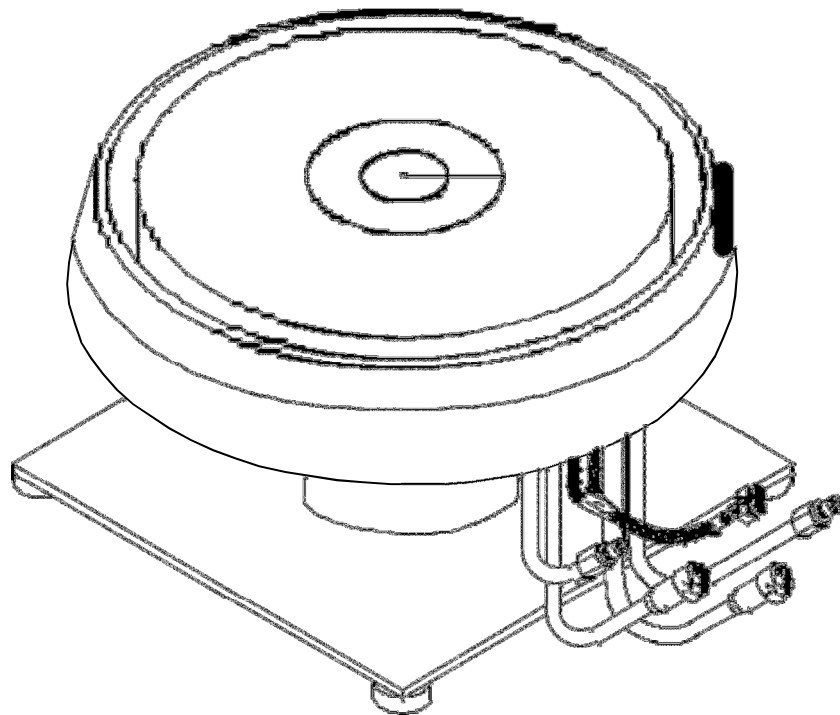

FIGURE 2-1. THERMAL CHUCK (TOP VIEW)
2.2 INSTALLATION AND SETUP (Ref. Fig. 2-1)
The THERMAL CHUCK (Ref. Fig. 2-1 & 2) is connected to a prober via **one** electrical connector, **one red** silicone hose for vacuum, **two white** silicone hoses with male quick connects for radiator cooling, and **two red** hoses with female quick connects for chuck cooling. The prober will be internally plumbed to accept the thermal chuck. To connect the thermal chuck to the prober, first connect the thermal chuck's vacuum hose to the wafer chuck vacuum nipple on the prober. Then connect all electrical connectors and plumbing quick connects to their mating counterparts on the prober. The CHUCK POTENTIAL electronic connector is a single UMC coaxial connector mounted on a four inch piece of coaxial cable attached to the bottom side of the chuck. This UMC connector mates directing with the signal cable which is a part of the probe station plumbing. If the prober is equipped with Kelvin connections to the chuck, a Model 45-2F can be employed to connect both of the Chuck signal cables to the THERMAL CHUCK assembly. The Model 45-2F allows the dual cabling to be attached at the chuck thus allowing the HP 4284 style LCR instrument to correct for the added inductance of the probe station's internal cabling to minimize errors. This significantly reduces the error compared to "teeing" the instrument cabling outside of the prober.